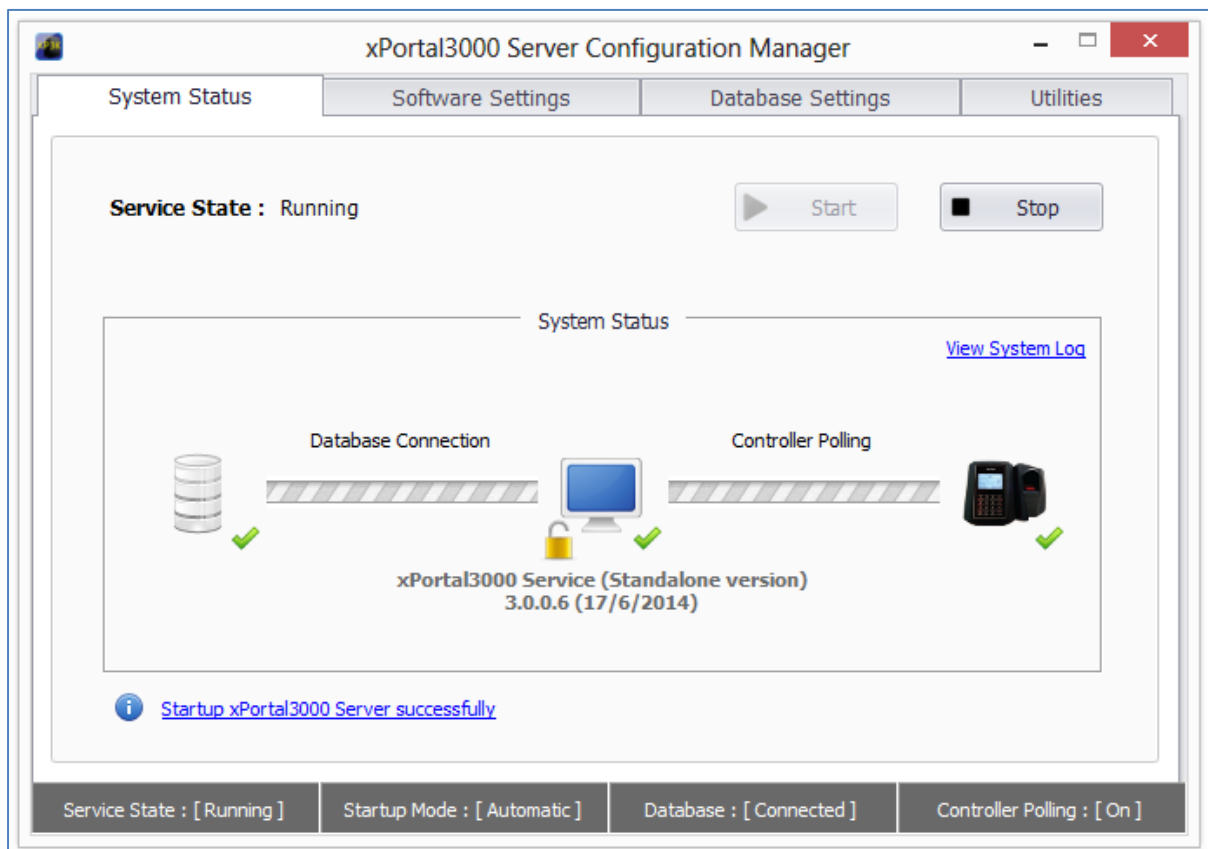

Figure 25 - xPortal3000 Server Configuration Manager (Standalone/ Full version)
- To run xPortal3000 Server Configuration Manager, double-click on Desktop. The following screen will be shown (Refer **Figure 25 & 26**).